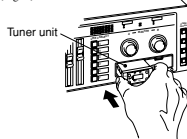

Fig. 1
- Check the up and down sides of the tuner unit, and insert it into the slot. (Fig. 1)